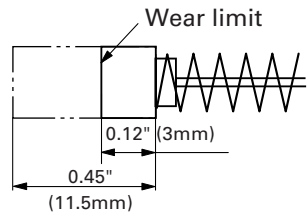

Fig. 24
5. Inspecting the carbon brushes (Fig. 24)